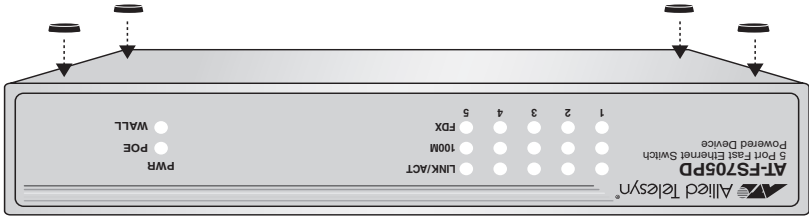

Figure 5 Attaching the Protective Feet
2. If you are installing the switch on a desktop, attach the four protective feet to the bottom of the unit. See Figure 5.